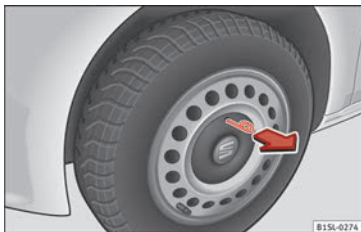

Fig. 50 Remove the hubcap of the steel wheel trim
- To remove, take the vehicle tool kit wire hook and attach it to the edge of the wheel trim » **Fig. 50**.